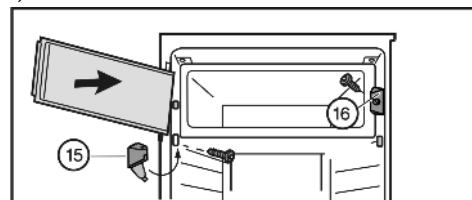

Fig. 8
- Fit closing element Fig. 8 (16).
- Fit turn hinge Fig. 8 (15) and fold the cover.